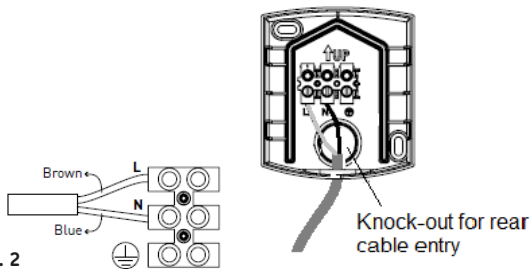

Fig. 2
- Connect the luminaire to the mains supply ensuring the correct polarity is observed: L - Live (brown), N - Neutral (blue). The earth terminal is non-functional and only provided for convenience (see Fig. 2)